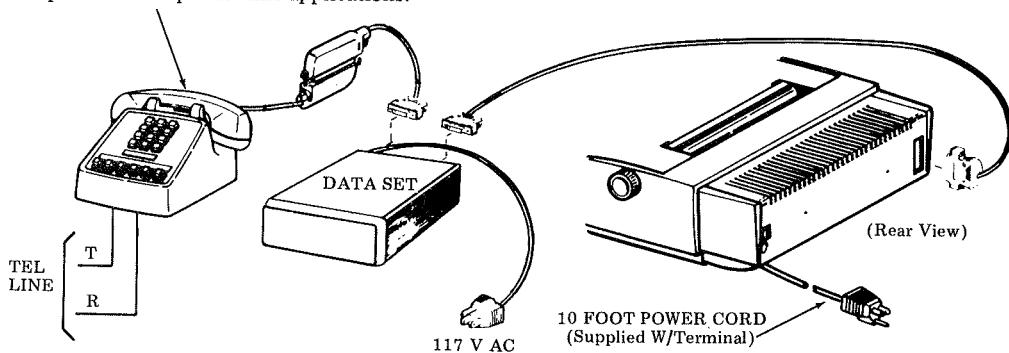

Fig. 5—Data Set Connection (Sets W/TAU)
3.13 The connection to the data set and telephone (if required) should be made following the instructions for the particular data set involved (Fig. 5).